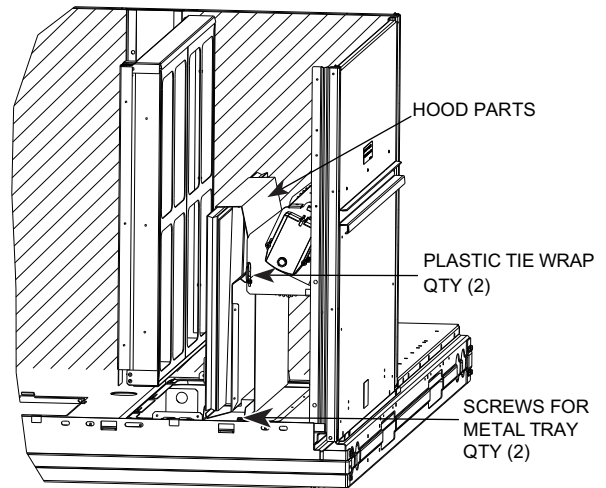

Fig. 11 — Economizer Hood Package Location
3. Locate the (2) screws holding the metal tray to the basepan and remove. Locate and cut the (2) plastic tie-wraps securing the assembly to the damper (see Fig. 11). Be careful to not damage any wiring or cut tie-wraps securing any wiring.